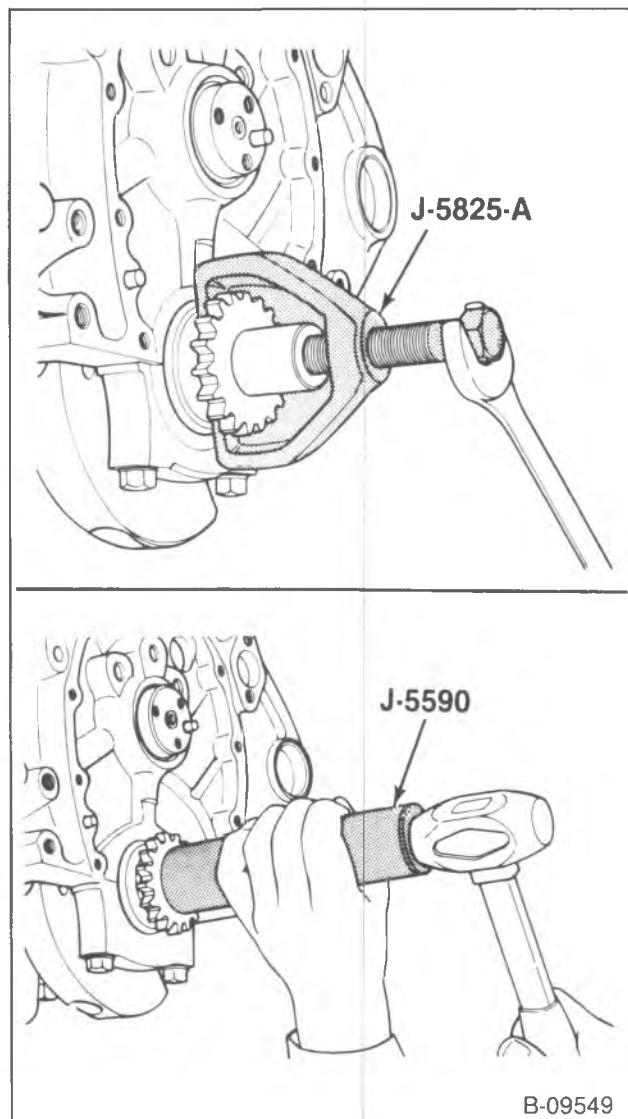

Figure 31—Crankshaft Sprocket Replacement
Disassemble (Figures 31 and 32)
1. Crankshaft sprocket. On 5.0 L and 5.7 L engines, use J 5825 (figure 31). On 7.4 L engines, use J 1619 (figure 32).
Assemble (Figures 31 and 32)